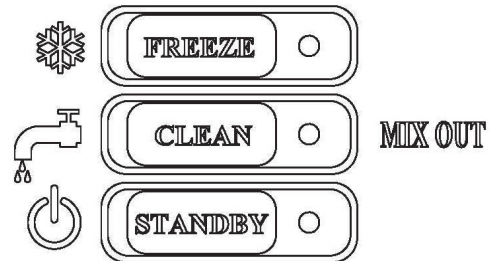
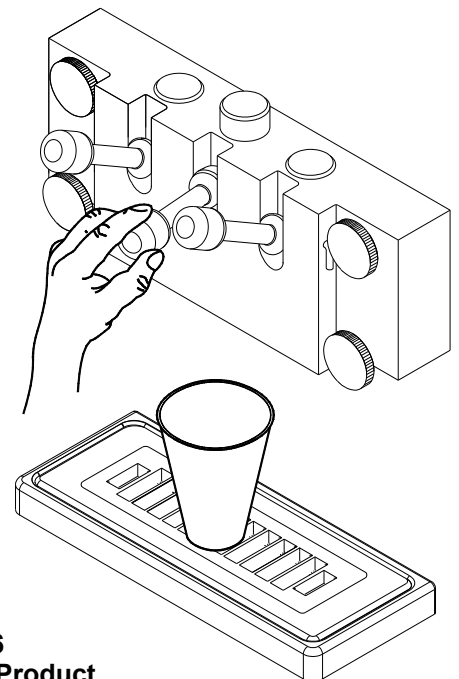

Fig. 2
Fig. 6
3. Level the unit by turning the bottom part of each leg clockwise or counterclockwise (Fig. 2). The machine **MUST** be level to operate properly.
2. Push the word "**CLEAN**" (Fig. 2) momentarily to verify the direction of rotation of the dasher. It should rotate counter-clockwise.
2. Push the word “**CLEAN**” and dispense all product from the freezing cylinder by pulling downward on the spigot handle (Fig. 6) to empty the machine. **NOTE: The buttons must be pushed and held in for 2 seconds to operate. This prevents mode changes from accidental contact.**
4. Push the word “**CLEAN**” (Fig. 2) and agitate for approximately 1 - 2 minutes and then drain the water by opening the spigots (Fig. 6). After the unit is empty, push the word “**CLEAN**” to turn off the machine.